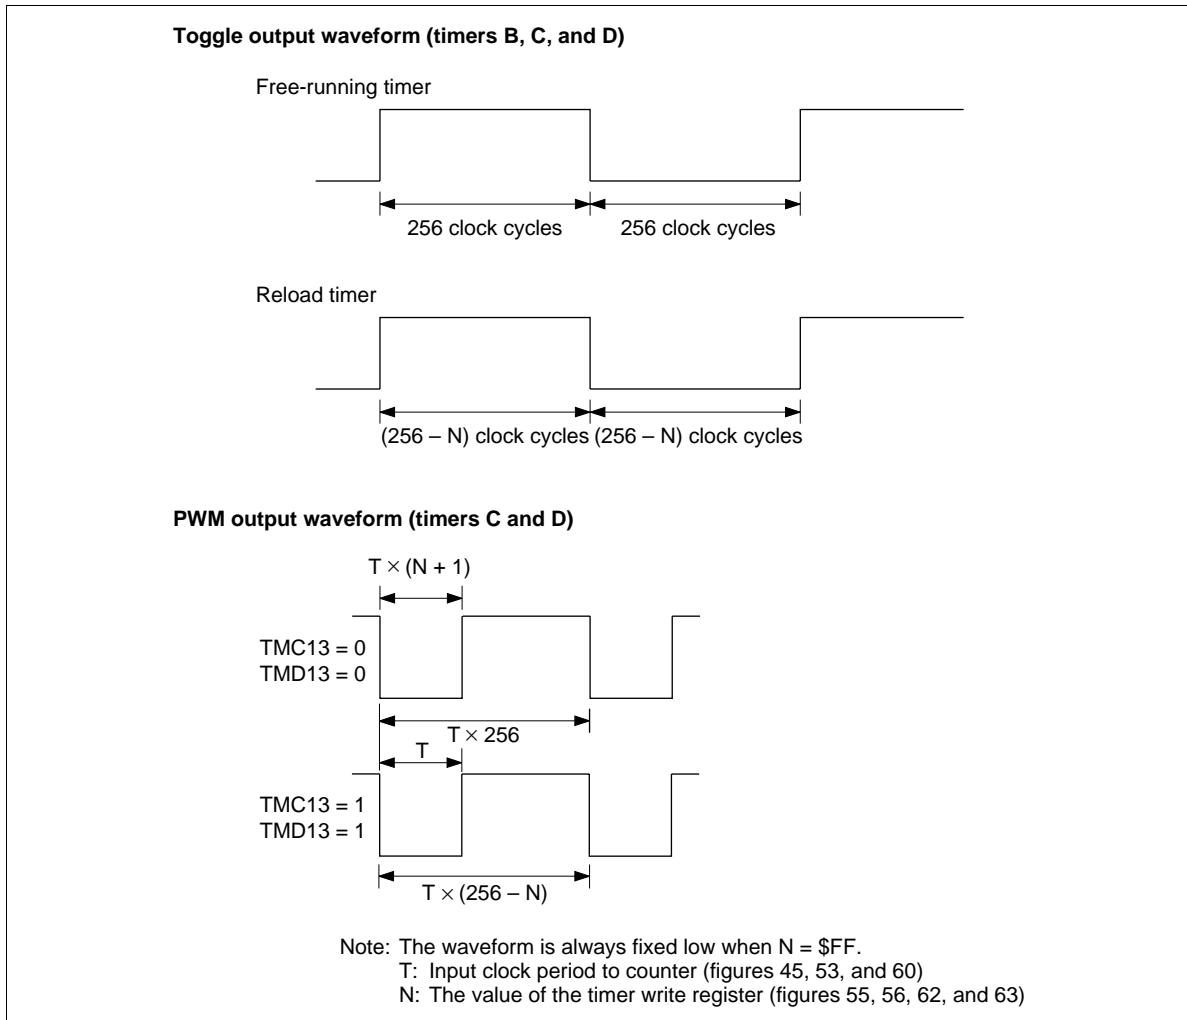

Figure 44 Timer Output Waveform
- Toggle output: When toggle output mode is selected, the output level is inverted if a clock is input after timer B has reached \$FF. By using this function and reload timer function, clock signals can be output at a required frequency for a buzzer. Refer to figure 44 for the output waveform.
- PWM output (figure 44): When PWM output mode is selected, timer C provides the variable-duty pulse output function. The output waveform differs depending on the contents of timer mode register C1 (TMC1: \$00D) and timer write register C (TWCL: \$00E, TWCU: \$00F).